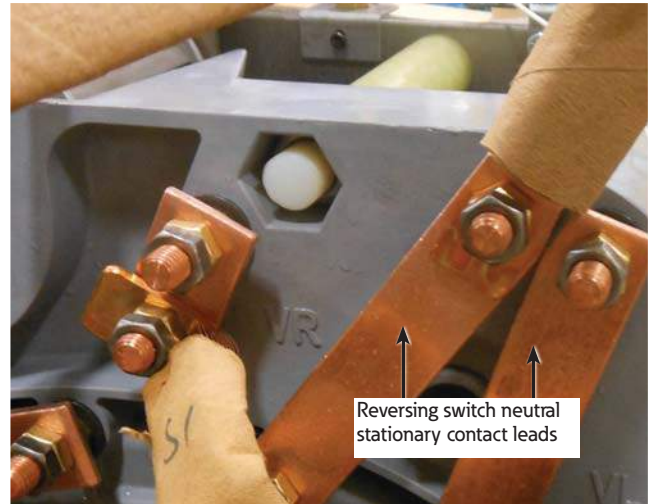

Figure 9. Loose logic switches
8. On the back side of the tap changer contact board, carefully mark the reversing switch leads; photos can be helpful to assist in remembering the arrangement of the connections. See Figure 9.
9. Using a 3/4" wrench, remove the nuts and jam nuts holding the leads and copper bars connected to the reversing switch neutral stationary contact and remove the connections. See Figure 9.